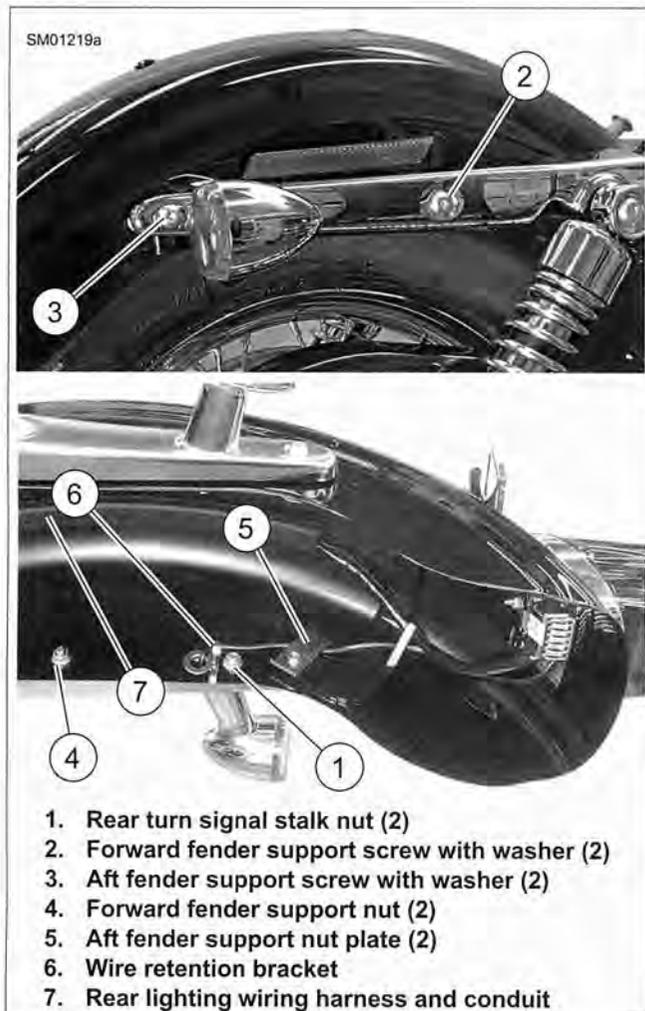

Figure 2-197. Rear Fender, Strut Cover and Turn Signal Lamp Assembly
6. See Figure 2-197. Remove rear turn signal stalk locknuts (1) from inside rear fender on both sides.